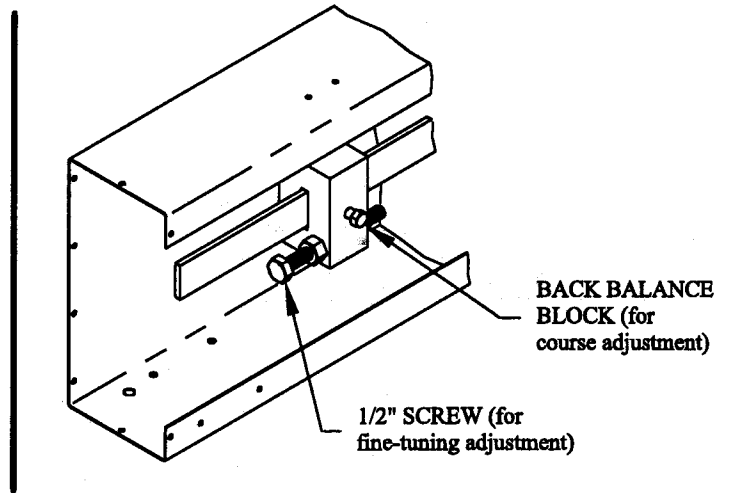
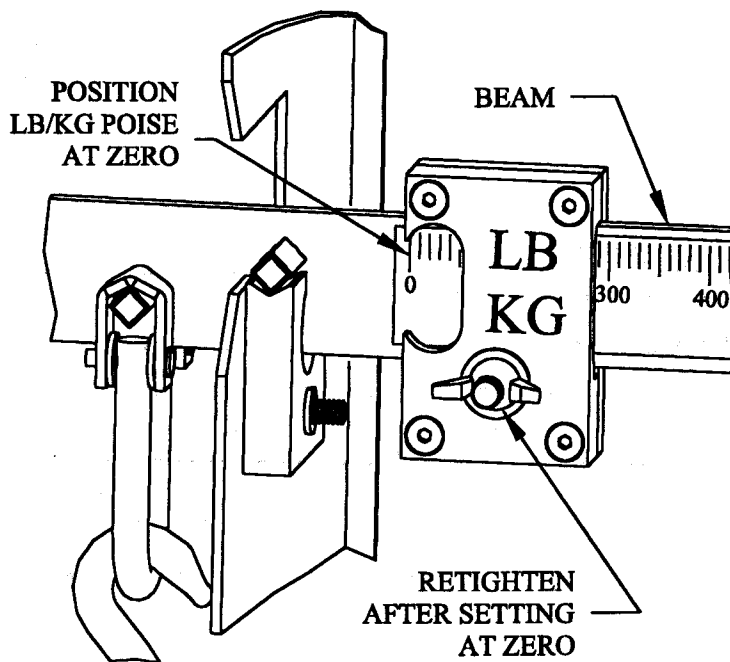
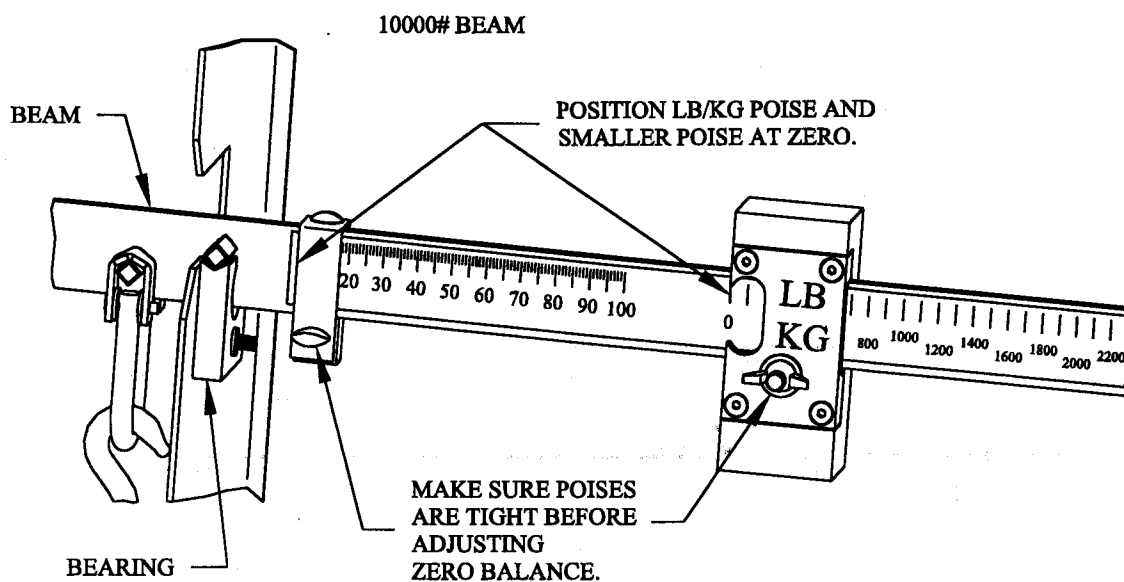

FIG. 4B
FIG. 3A
FIG. 3B
STEP 3. Slide the poise back to zero on the beam. See Fig. 3A. For a 10000# beam slide both poises back to zero. See Fig. 3B.
- 8) Balancing the scale for the first time to zero. Slide the poise to zero on the beam and tighten. See Fig. 3A (Calibration section – pages 18-22). Loosen the back balance set screw and move the block forward or backward to get the beam close to balancing. Tighten the set screw. Use the 1/2" screw for the final balance. Tighten the 3/4" nut. See Fig.4B (Calibration section – pages 18-22). Make sure the beam floats freely and repeats.